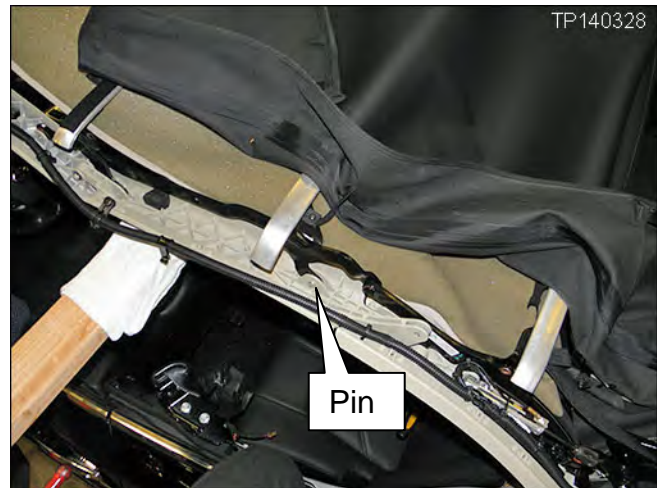

Figure A23
12. Remove the pin shown in Figure A23 as follows: